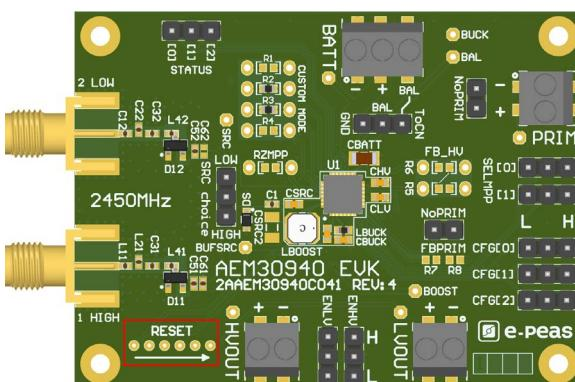

Figure 2: Board reset
1. Reset the board - see "How to reset the AEM30940 evaluation board" on Figure 2.